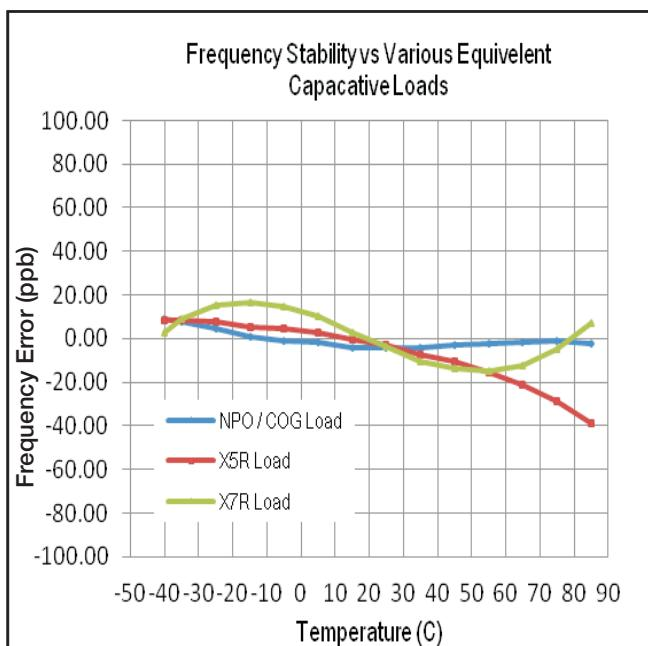

Figure: 13-01
2. Always adhere to stated loading specifications} for OCXO RF output. OCXOs are load sensitive and require an equivalent load capacitor with a flat capacitance vs. temperature curve to achieve stated frequency stability specifications. Consider NPO/COG capacitors when practical for optimal temperature characteristics. See FIGURE 13-01 Frequency Response to various equivalent capacitive loads.
See FIGURE 13-01.